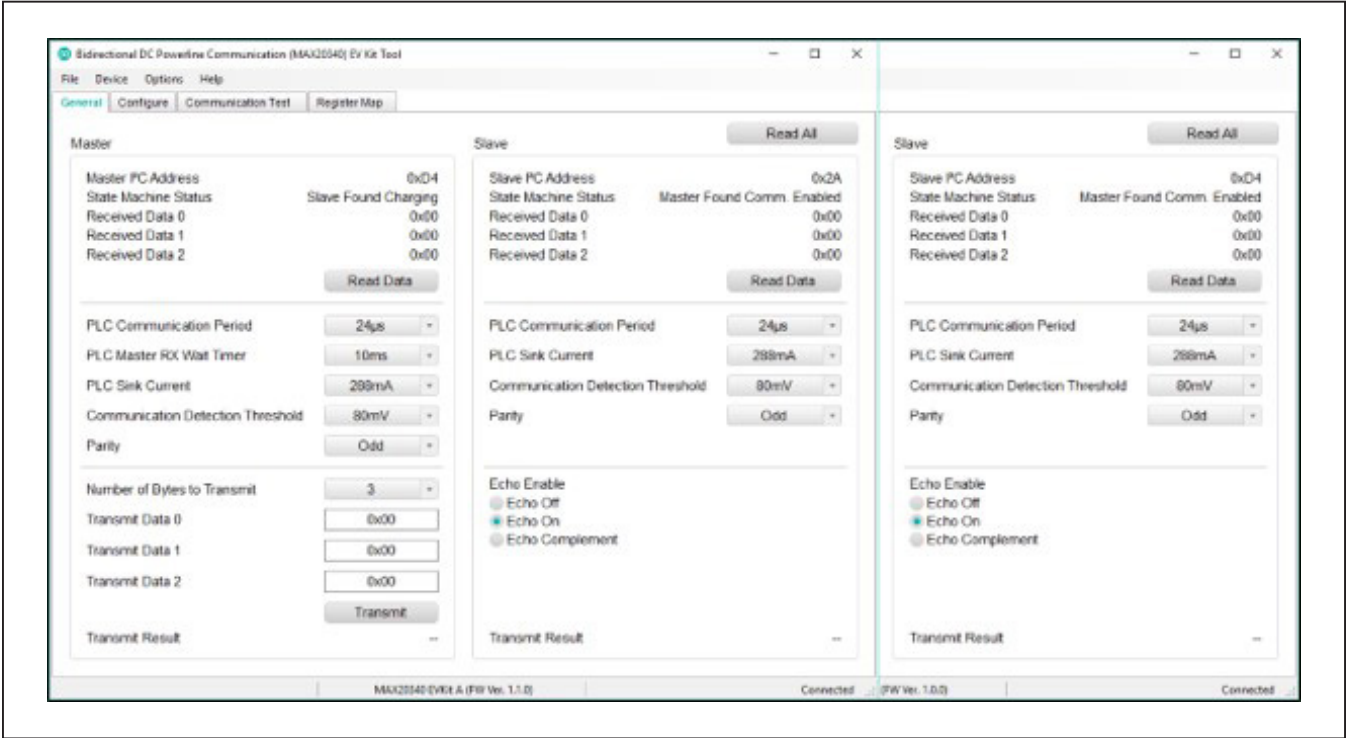

Figure 10. Two MAX20340 EV Kit GUIs Connected to Both Boards.
7) If the setup steps were followed correctly, the two GUIs should appear as shown in Figure 10.